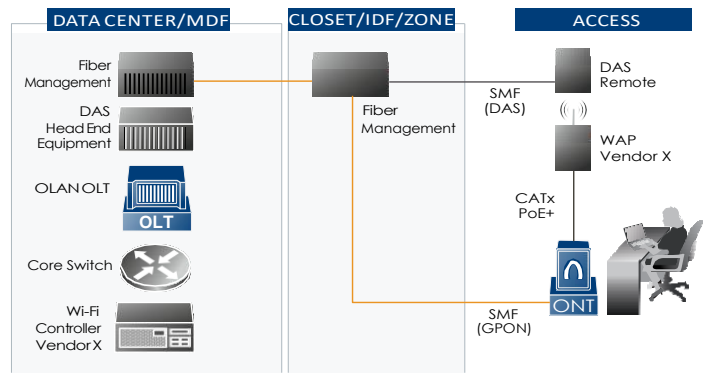

Figure 7: DAS over fiber with synergies with Optical LAN architecture
There are also synergies between distributed antenna systems (DAS) and Passive Optical LAN. To be clear, the DAS traffic does NOT traverse the Passive Optical LAN equipment, but it can leverage the same fiber infrastructure that Passive Optical LAN utilizes [Figure 7]. Alone, DAS has a challenging return-on-investment analysis — it is relatively expensive; it only does one thing; and the end customers think they should not have to pay for it. Passive Optical LAN has an excellent ROI that can justify the deployment of DAS over existing spare fibers. In the near term, DAS and Passive Optical LAN can gain additional synergies with combined powering, power backup and fiber management between them. In the future as both DAS and Passive Optical LAN technologies advance, it can be expected that the Passive Optical LAN ONT can integrate both DAS antenna and Wi-Fi WAP hardware.
**Smart/Intelligent Buildings** — A Building Management System (BMS) and Building Automation System (BAS) are extremely important for any new high-performance buildings and a key to reducing operating costs. Building monitoring devices and system reporting and analysis tools require IP/Ethernet connectivity. In recent years, the Passive Optical LAN has taken on the responsibility to integrate these functions. Since the majority of BMS/BAS monitoring devices today are IP/Ethernet based, the connectivity into the existing (or new) Passive Optical LAN is seamless [Figure 7]. The Passive Optical LAN can ensure adequate bandwidth, security, authentication and quality of service specific to each monitoring and management device.